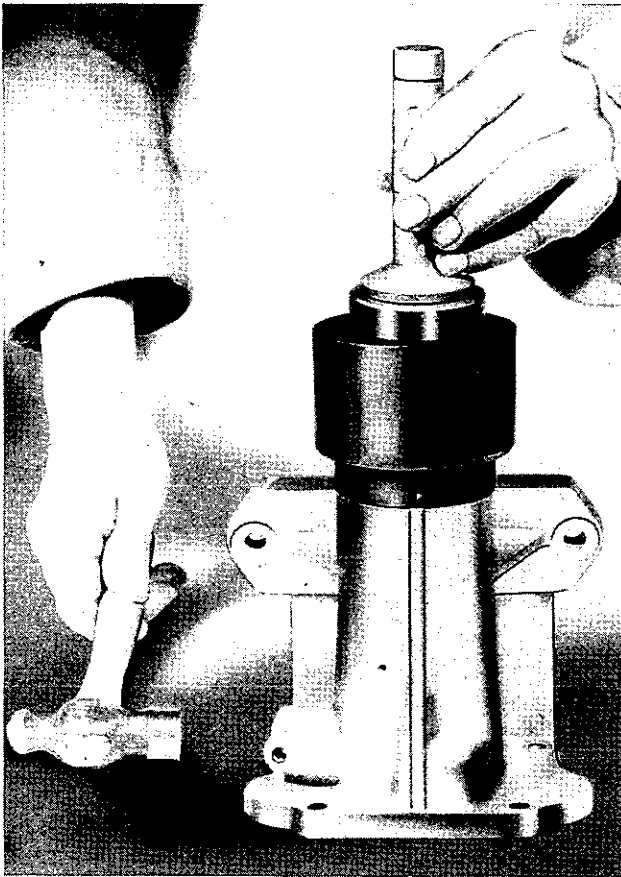

Fig. 31. Fitting extension oil seal with Tool No.
22. Fit oil seal into rear of gearbox extension with the special tool shown in Fig. 31.